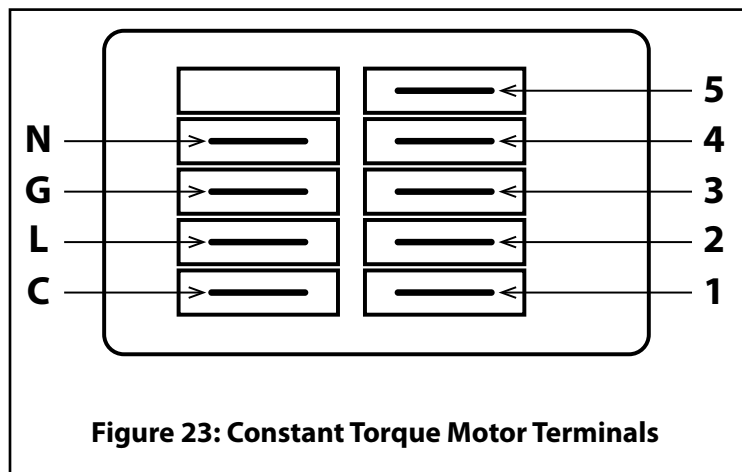

Figure 23: Constant Torque Motor Terminals
4. Move the BLACK and RED wires connected to terminals 1-5 on the motor terminal block (See Figure 23) to the desired speed taps. See Table 18 for the speed tap descriptions.